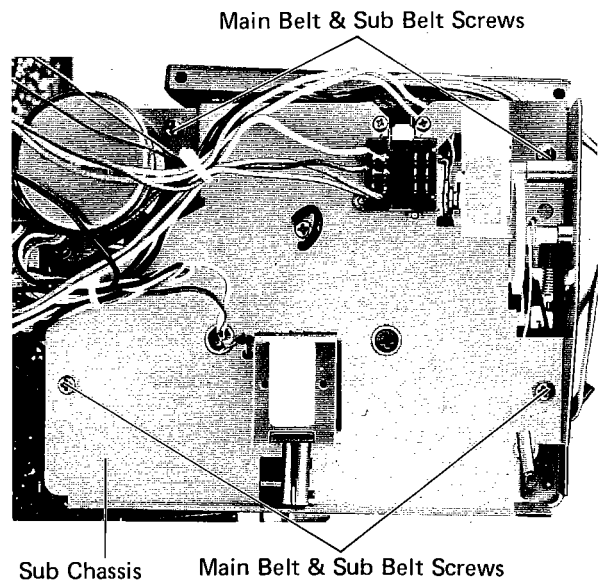

Figure 9
- (1) Remove four screws from the sub chassis as shown in Figure 9.